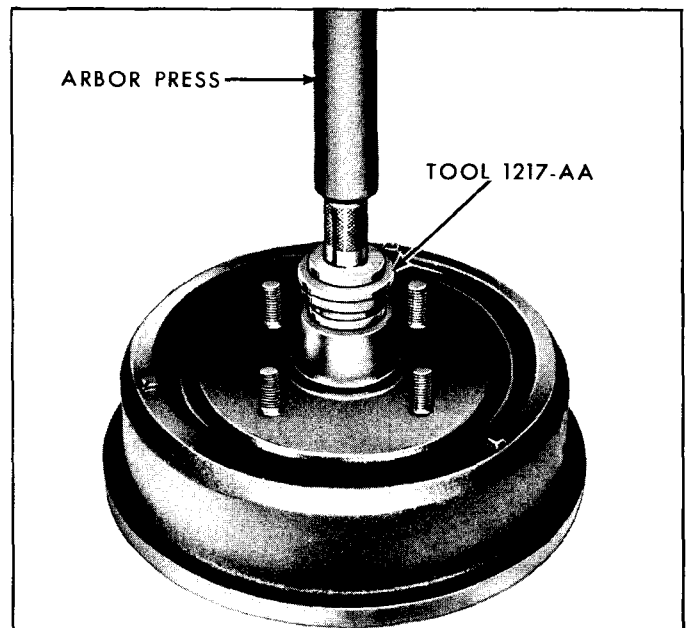

Fig. 1-4—Front Wheel Bearing Cup Installation—(60C-2804)
12. While supporting the hub, install the inner and outer bearing cups in the hub with the tool shown in figure 1-4. **Be sure to seat the cups properly in the hub.**
cup, and install the grease retainer with the reverse end of the tool shown in figure 1-4. Be sure that the retainer is properly seated.